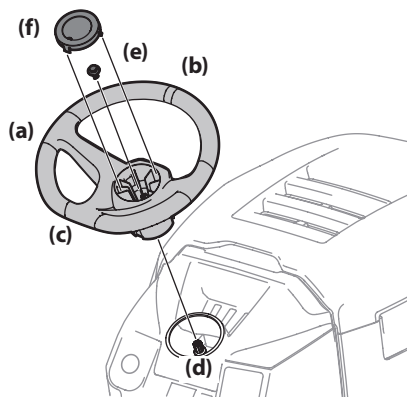

Figure 9
- With the wheels of the tractor pointing straight forward, align the steering wheel (a) by using the center-line (b) on the front of the steering wheel (a) pointing straight ahead and the flat section (c) of the steering wheel (a) facing toward the seat, place the steering wheel (a) over the steering shaft (d). See Figure 9.
- Secure the steering wheel (a) with the hex bolt (e) from under the steering wheel cap (f) and torque to 18-22 ft-lbs (24.4-29.8 N-m). See Figure 9.
- Place the steering wheel cap (f) over the center of the steering wheel (a) and push downward until it "clicks" into place. See Figure 9.
NOTE: The hex bolt (e) securing the steering wheel (a) has thread locker applied to it, so if it is removed, it is recommended that the hex bolt (e) be replaced or thread lock re-applied. See Figure 9.